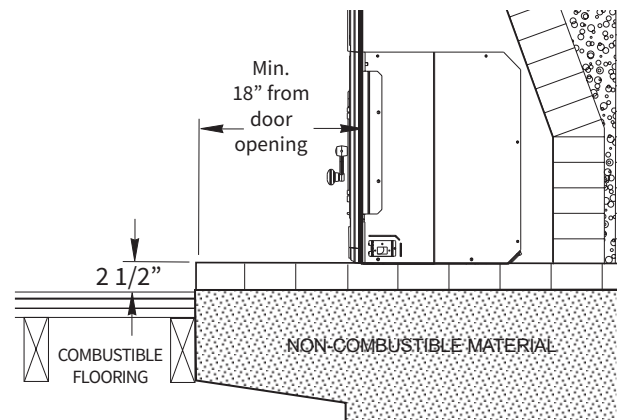

Figure 3.5.. Canada only:
b) it is raised a minimum of 2 1/2" and constructed on noncombustible materials in a code-approved masonry fireplace. See fig. 3.5.